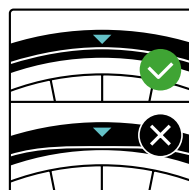

Fig. 9
- Check that the tire bead is seated evenly in the rim (Fig. 9).